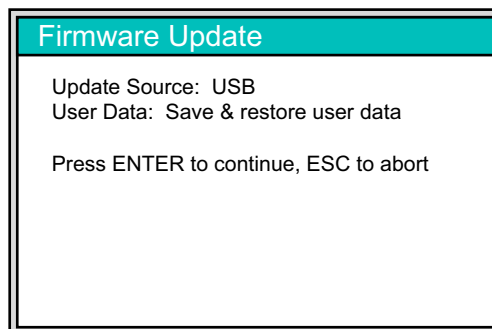

Figure F-6. Firmware Update Message Box
5. The Firmware Update message box is displayed and directs you to press ENTER to continue or to press ESC to abort (Figure F-6).